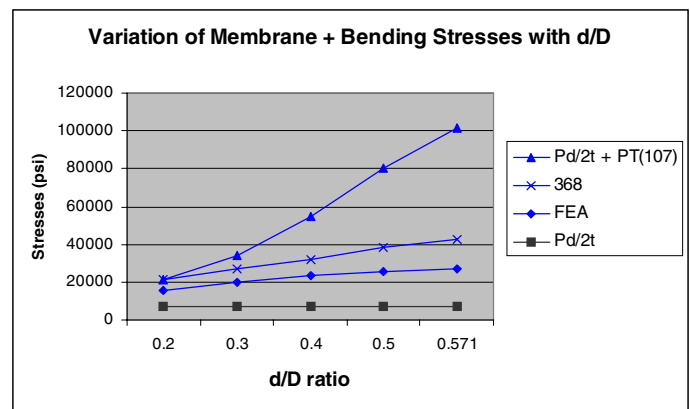

Figure 6
Figure 6 shows the variation of the membrane + bending stresses compared to the d/D ratio. Notice the increase in the stress values from the Pd/2t + PT(107) method with the increasing d/D ratio. If the allowable stress for this case is 60,000 psi ( $3 \cdot S_{avg}$ , for SA-516 70), the design fails miserably per Pd/2t + PT(107) method. However, it still passes when analyzed with FEA and WRC 368 methods!